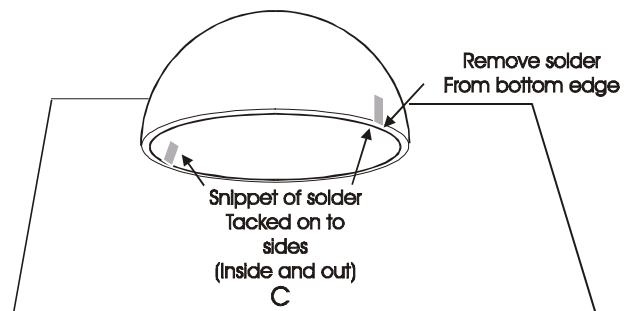

Fig. 8.1. Tack-soldering
Step 7 Tack Solder. Tack a piece of the medium solder on each side of one dome at the seam edge and sand off solder from under the seam, as indicated for conventional beads (**Fig. 8.1**). After pickling, align and reapply your ink numbers.